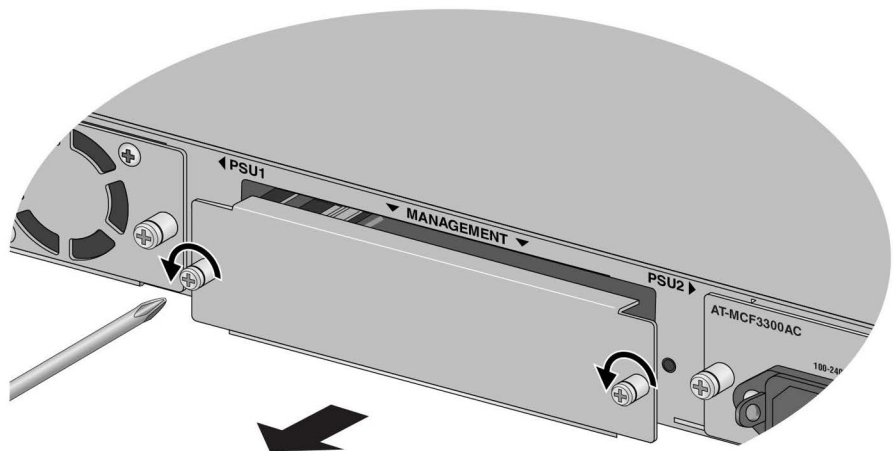

Figure 33. Removing the Blank Panel from the Management Module Slot
1. Using a cross-head screwdriver, loosen the two captive screws that secure the blank panel over the Management slot on the rear panel, and remove the panel. Refer to Figure 33.